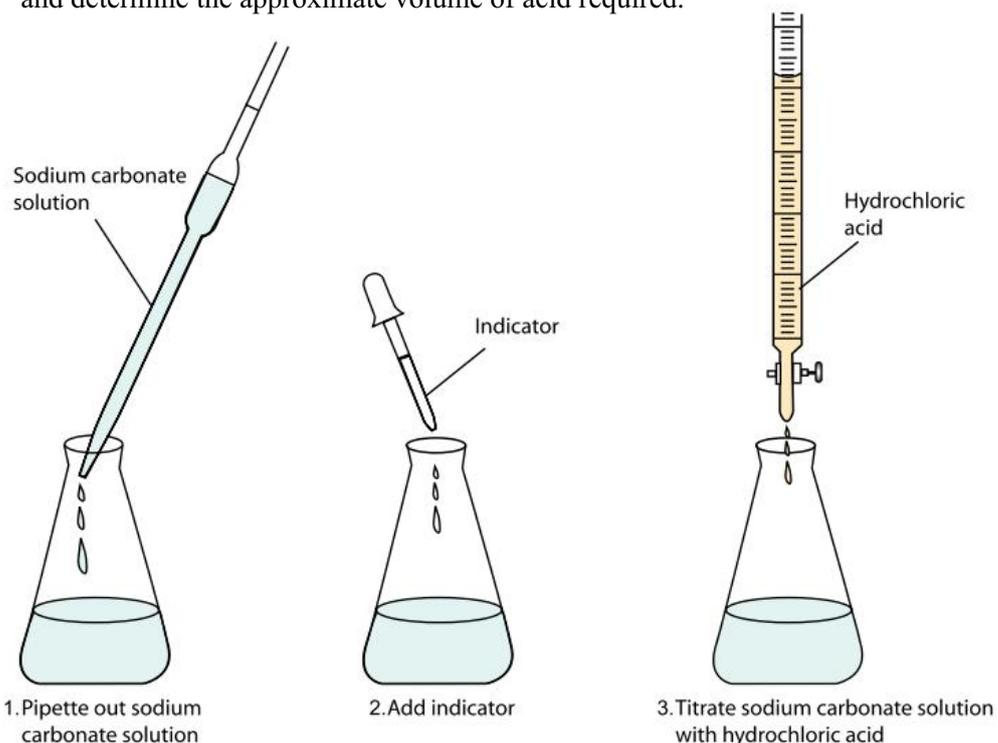

Figure 13.1
- Rinse a clean 20 mL pipette with some of the Na_2CO_3 solution (Fig 13.1: 1). Pipette 20 mL of the Na_2CO_3 solution into a 250 mL conical flask. Add 2-3 drops of your chosen indicator to the flask (Fig 13.1: 2).
- Note and record the level of acid in the burette. Obtain a rough estimate of the titration volume by running acid quickly from the burette while constantly swirling the liquid in the conical flask. Stop delivery of the acid as soon as a permanent colour change is obtained (Fig 13.1: 3). Note and record the acid level in the burette and determine the approximate volume of acid required.